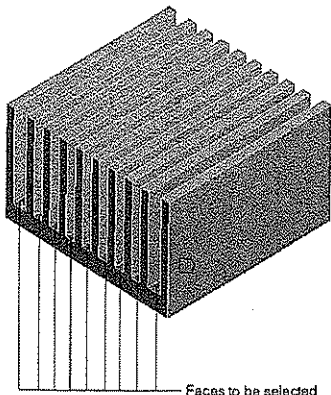

Figure 11-58 Faces selected for applying Convection
14. Select the top face (excluding the fin surface) of the Heat Sink, as shown in Figure 11-58 and then choose the **Apply** button in the **Geometry** selection box; **9 Faces** is displayed in the **Geometry** selection box indicating that 9 faces are selected on which Convection is to be applied.